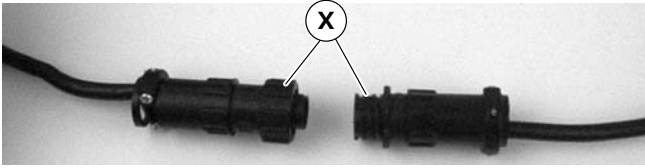

Figure 14
3. For DC variable speed motor, unplug motor cord at disconnect (X of Figure 14).